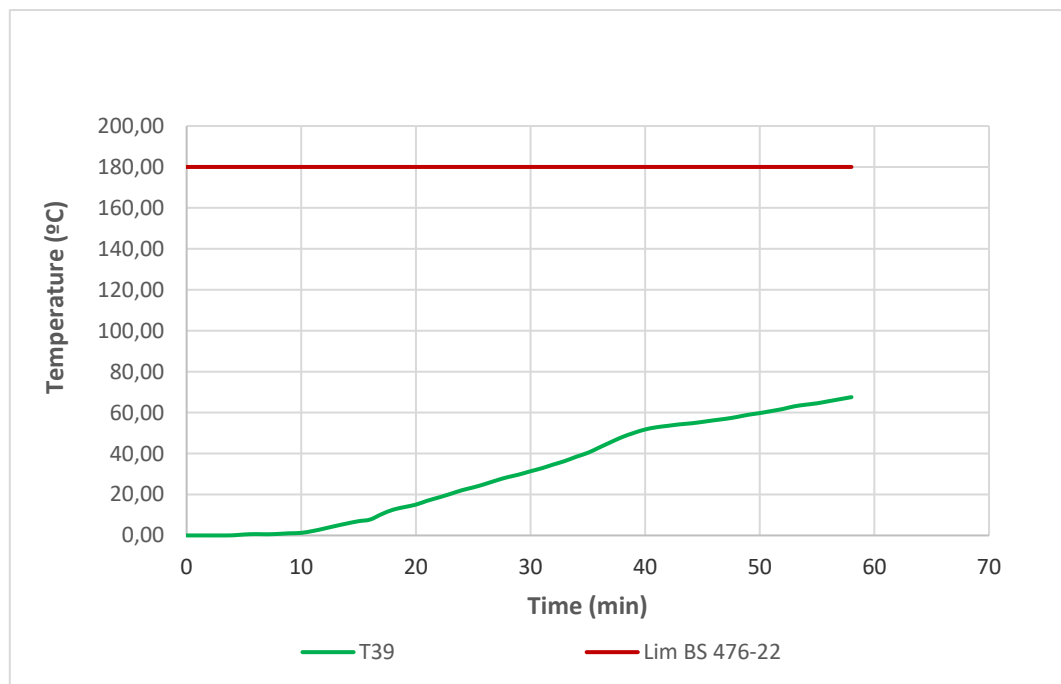

FIGURE 10
- 6.8 Figure 10 shows the temperatures of the auxiliary peephole thermocouple placed on the unexposed side of sample 7521-3.